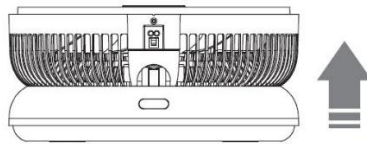

Figure 1
- Open the fan vertically from the head (Figure 1).